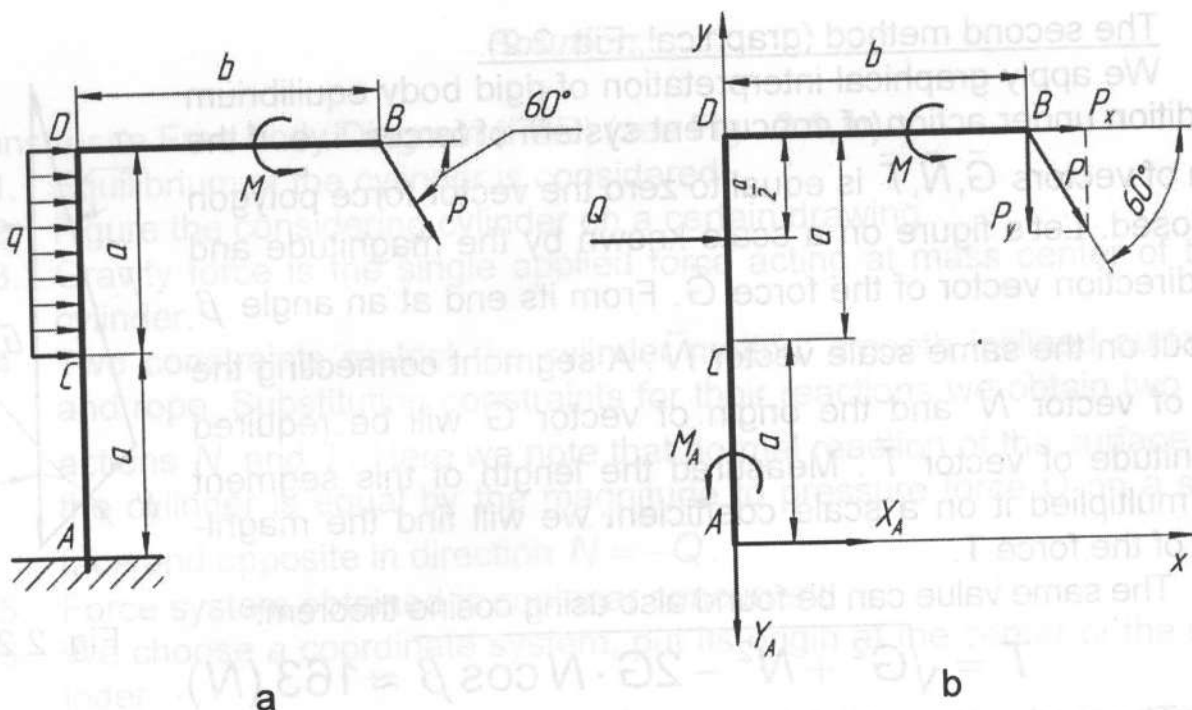

Fig. 2.3
On the frame fixed with the use of clamped joint (Fig. 2.3, a), the following loads act: couple of forces with moment  $M = 4 \text{ N}\cdot\text{m}$ , concentrated force  $P = 10 \text{ N}$ , distributed load with intensity  $q = 1,5 \text{ N/m}$ . The distances are known:  $a = 2 \text{ m}$ ,  $b = 3 \text{ m}$ .
1. Construct a Free body Diagram (FBD) (see Fig. 2.3, b).